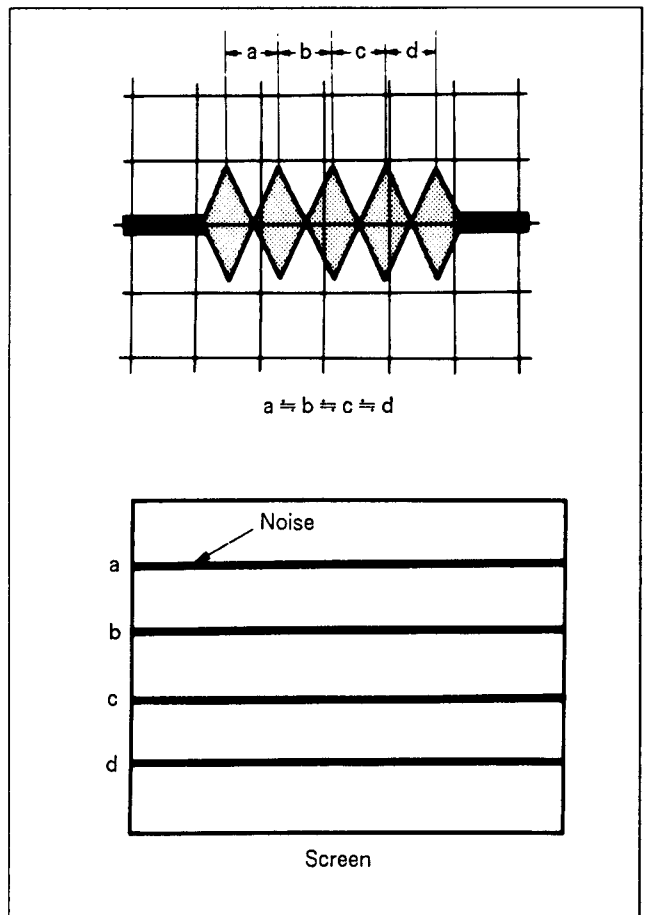

Fig. 7-87.
- 6) Set to the REV mode and confirm that the waveform noise pitches are uniform. If not, adjust as follows. (See Fig. 7-87.)